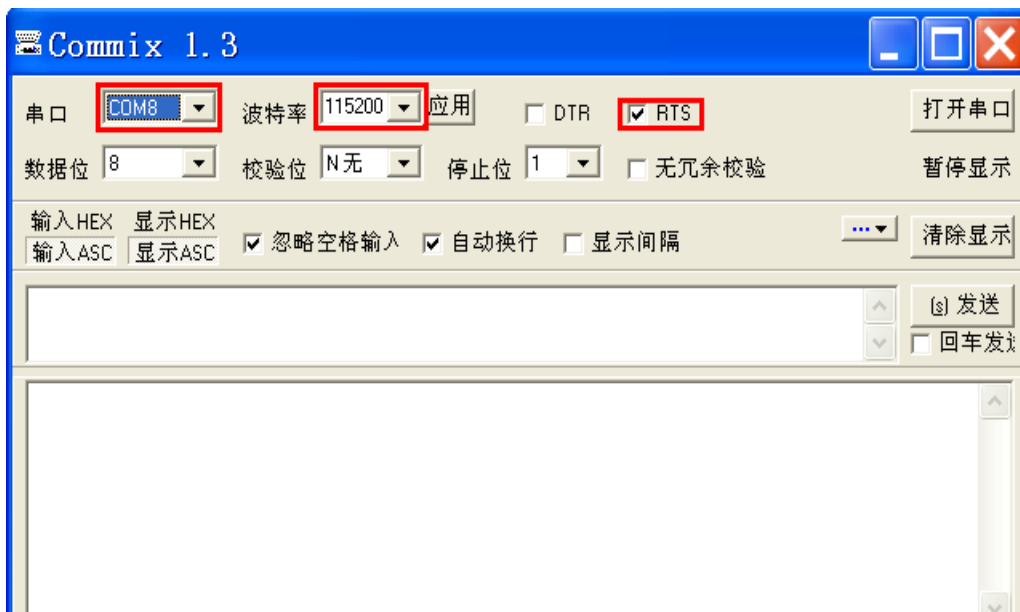

Figure 7 Commix configuration
- c) Open Commix tool, and set configuration as shown in Figure 7.